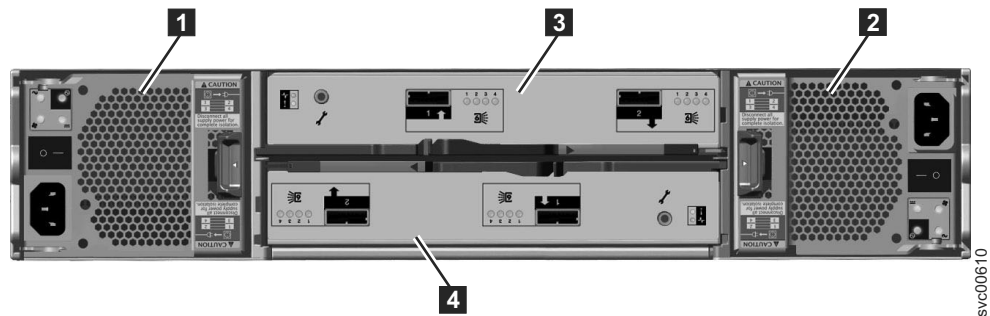

Figure 14. Rear view of a model 2076-212 or a model 2076-224 expansion enclosure
Figure 14 shows the rear view of an expansion enclosure and identifies the location of the power supply units and the canisters. The ports and their use are described later in this section.
- Two canisters are housed in the middle of the enclosure. Each canister is known as an expansion canister. The upper canister, as shown in Figure 14, is canister **3**, and the lower canister is canister **4**. Canister 3 is top side up, and canister 4 is inverted, or top side down.